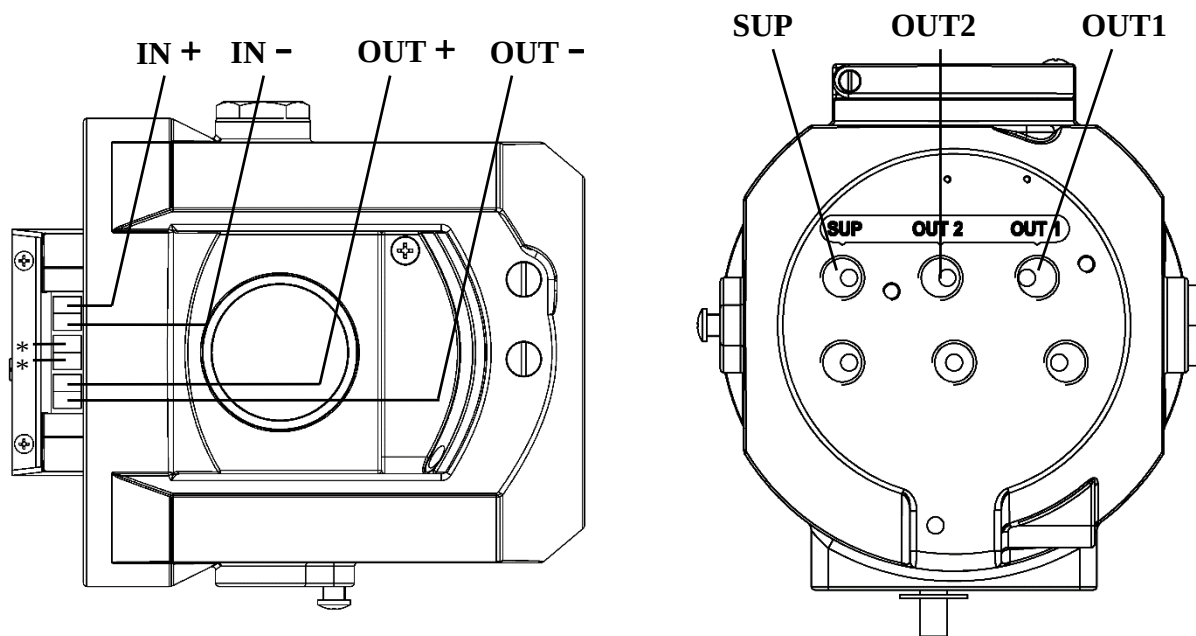

Figure 1. Connection description
- If the no-load voltage of the input signal is between 11-15V, the positioner needs to be set to low impedance mode to avoid attenuation of the input signal. Connect the two undefined electrical interfaces marked with * in Figure 1 to each other through one wire to make the positioner in low impedance mode.